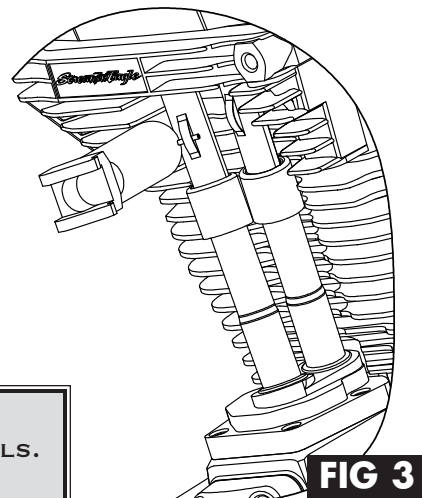

FIG 3
1. To remove the clips, start by placing the pin end of tool inside the raised tag of one of the clips to be removed. To help overcome the spring pressure, push down on the spring cover holding the clips in place. Then with your fingers push down on spring cover just enough to pull the clip free from pushrod assembly. **See Fig 3.**